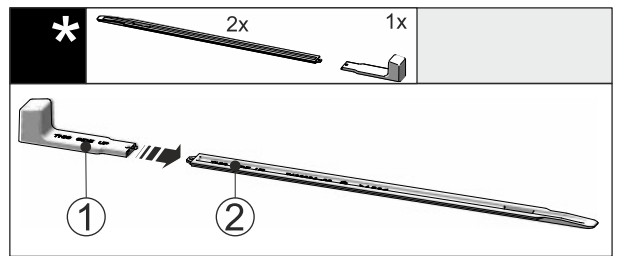

Fig. 47
- Insert the mounting handle Fig. 47 (1) into the leveling rail Fig. 47 (2).